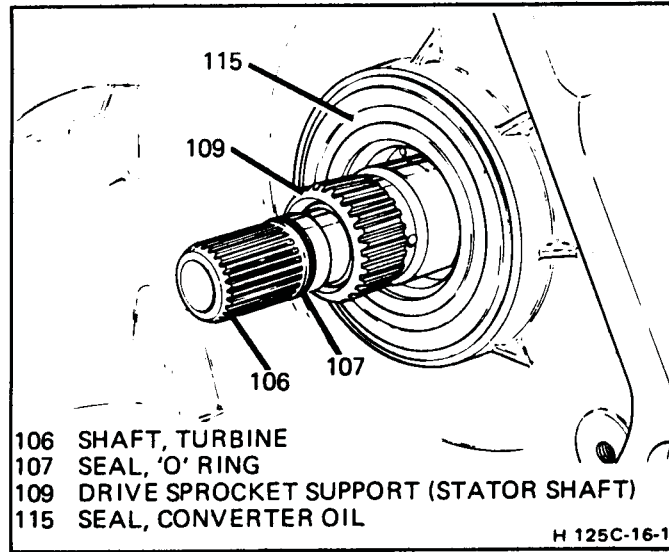

Figure 21 Turbine Shaft "O" Ring Seal
1. Rod (70) from manual valve (406)
- Install two (2) M12 bolts 50 mm (2") long into dowel pin holes. Bolts will: self tap, bottom and separate the case (112) and the cover(401). Alternate tightening of the bolts.
- DO NOT PRY CASE COVER (401).**
- Place the case cover (401) on the bench, 1-2 accumulator side up.
3. Accumulator spring (419)
4. Piston (421)
5. Gasket (415)
6. Drive sprocket thrust washer (414)
7. Driven sprocket thrust washer (121)
8. Turbine shaft "O" ring (Figure 21)
9. Link assembly (101), drive and driven sprockets (103) (122)
10. Drive sprocket support thrust washer (104)
11. Driven sprocket support thrust washer (123)